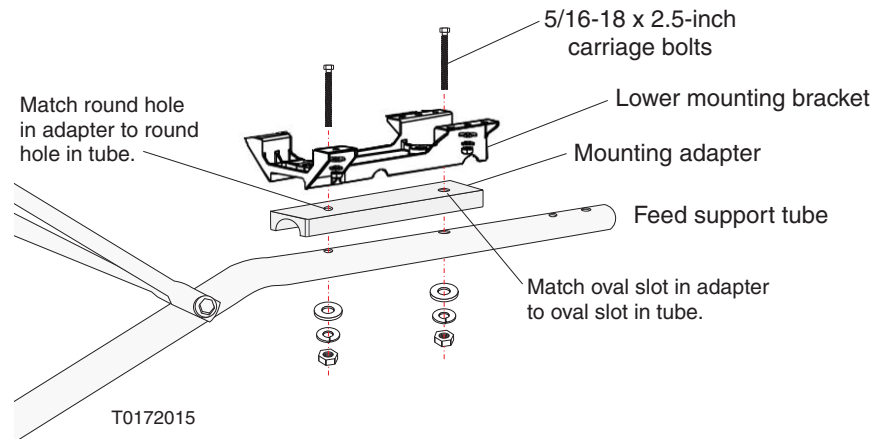

Figure 32: Attaching the radio assembly to the feed support tube
1. Position the lower mounting bracket and mounting adapter on the feed support tube, with the bolt holes aligned, as shown in Figure 32.
There are four holes on the top surface of the feed support tube. Two of these holes are oval slots. Use the round hole and oval slot *closest to the reflector* to mount the radio. (See Figure 32.)